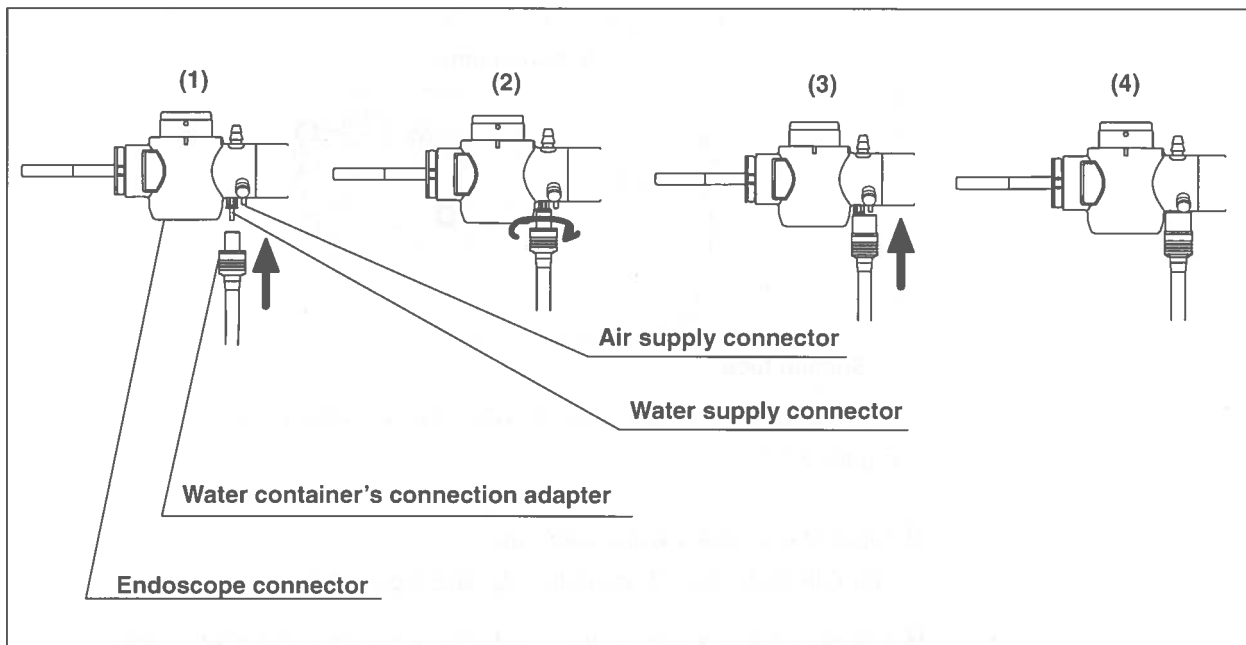

Figure 3.15
3. Connect the water container's connection adapter to the air supply connector and water supply connector (see Figure 3.15).